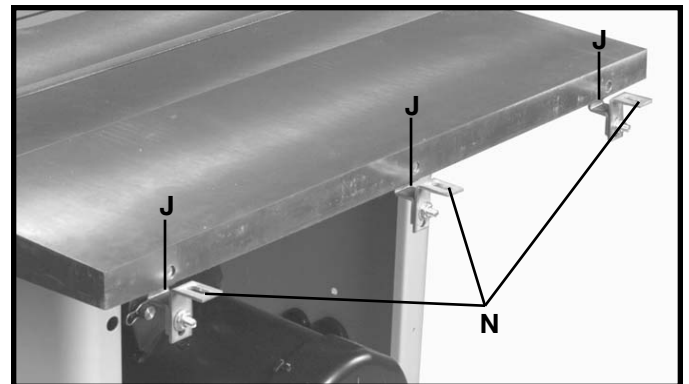

Fig. 44
10. Fig. 44, illustrates angle brackets (N) properly assembled to Z-brackets (J).